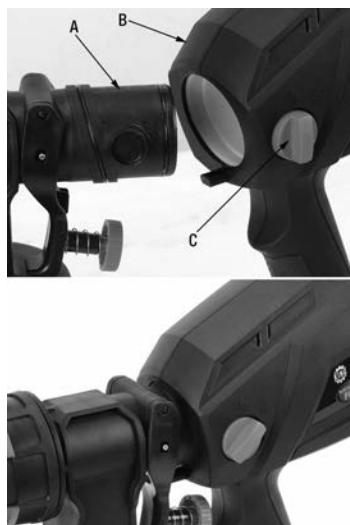

Figure 3
The spray gun attachment (A) Fig.3 and the body/motor assembly (B) need to be assembled. Insert the spray gun attachment into the opening of the body/motor assembly. Push as far as it will go, then turn the lock knob (C) clockwise to secure both parts together.